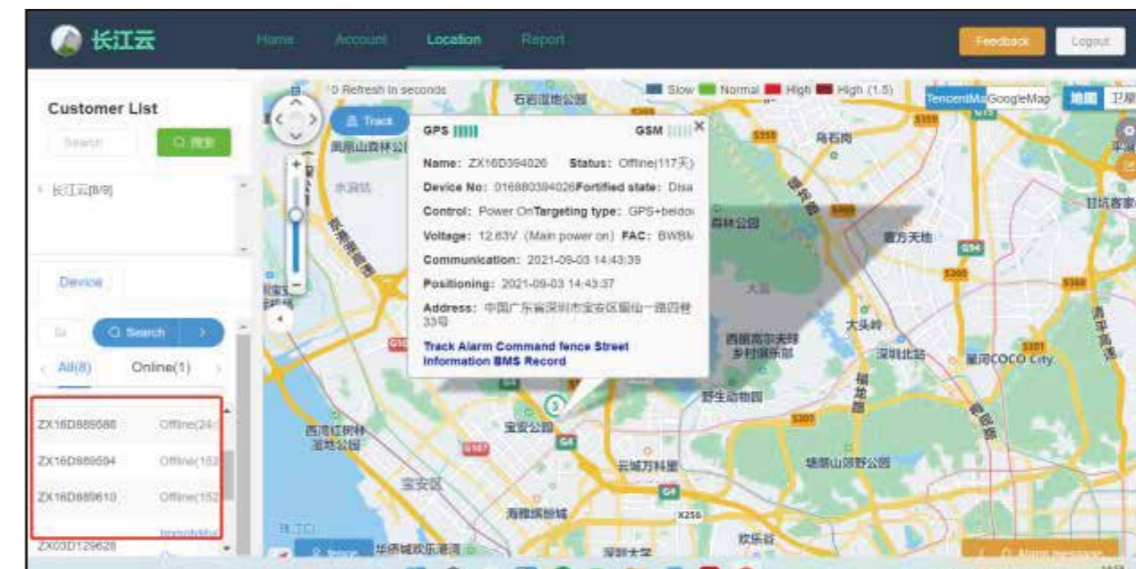

Figure 3
3.1.3 Figure 3 Click the Location menu button on the left side of the page to see the online status of the device (red frame),click the device to view the device's current location information (positioning accuracy depends on the local communication network),alarm data, other information about the device and BMS data.